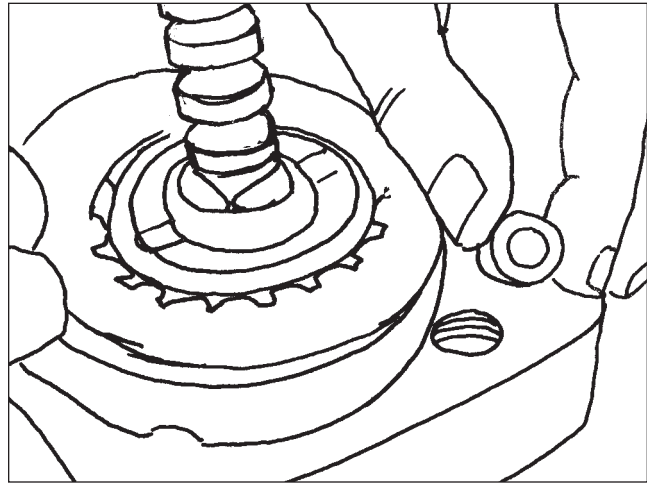

Figure 62
2. Remove and discard the seal ring & tetra seal (Figure 62).